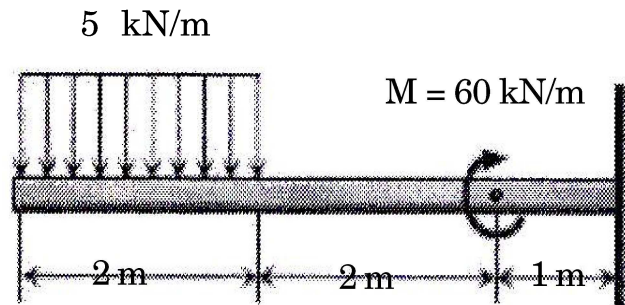

Fig. 1
- (b) Draw SFD and BMD for the beam loaded as shown in Fig.1 below. [6]